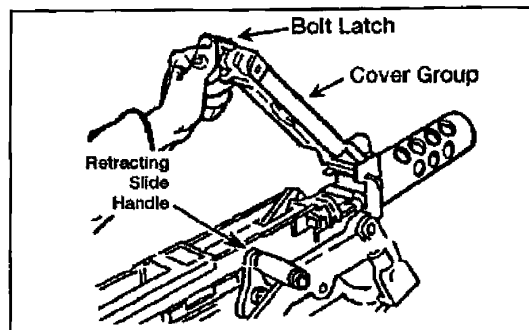

Figure 071-022-0001-1. Raising the cover
- (1) Raise the cover group (figure 071-022-0001-1).